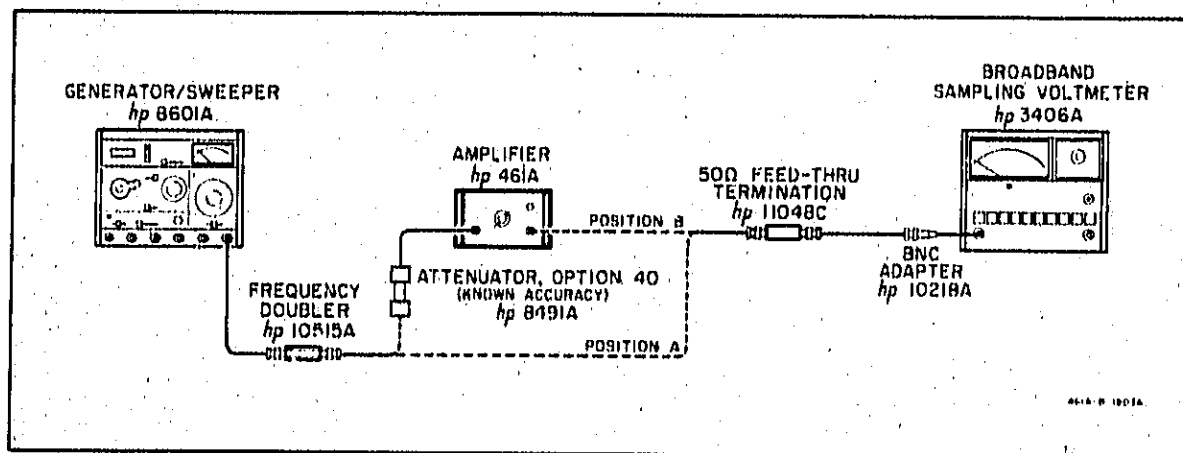
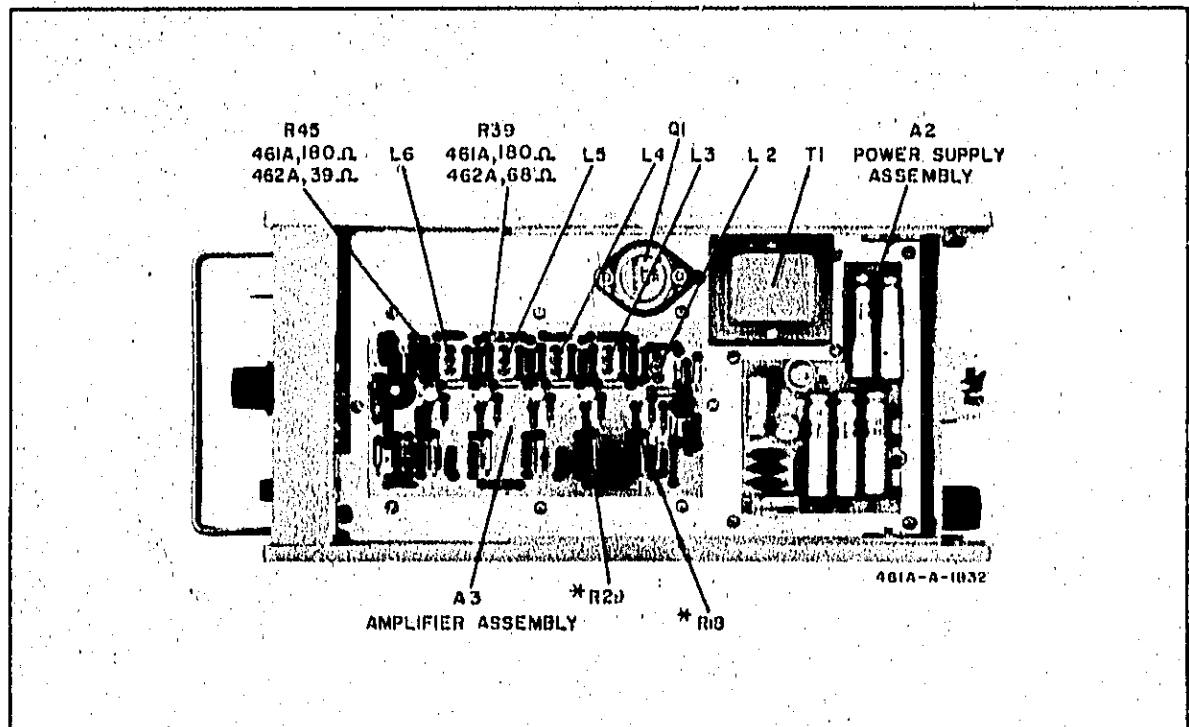

Figure 5-3. High Frequency Response Check
Figure 5-11. Top View
- a. Connect the 461A as in Figure 5-3, position B, using the 40 dB attenuator and turning the signal generator output to minimum.
- d. Connect the ac voltmeter as in Figure 5-3, position A. Record the voltmeter reading for an input reference level.
- j. Connect the circuit in Figure 5-3 using the 20 dB attenuator and placing the 461A in the 20 DB GAIN position. Repeat steps b through g. If the frequency response is not within +/- 1 dB refer to Troubleshooting paragraph 5-31 and Table 5-2.
The test equipment in Figure 5-3 must be used for an accurate check and for a final adjustment for high frequency response. L2 through L6 should not have to be adjusted unless some component is changed in the feedback path. If the coils have to be adjusted, carefully peel away the cement, turn the coil with a plastic tuner and when the alignment is finished, cement the coils again with Duco cement. Refer to Figure 5-11 for location of coils.
- a. Connect the test setup as in Figure 5-3 and repeat paragraph 5-12, steps a through g.